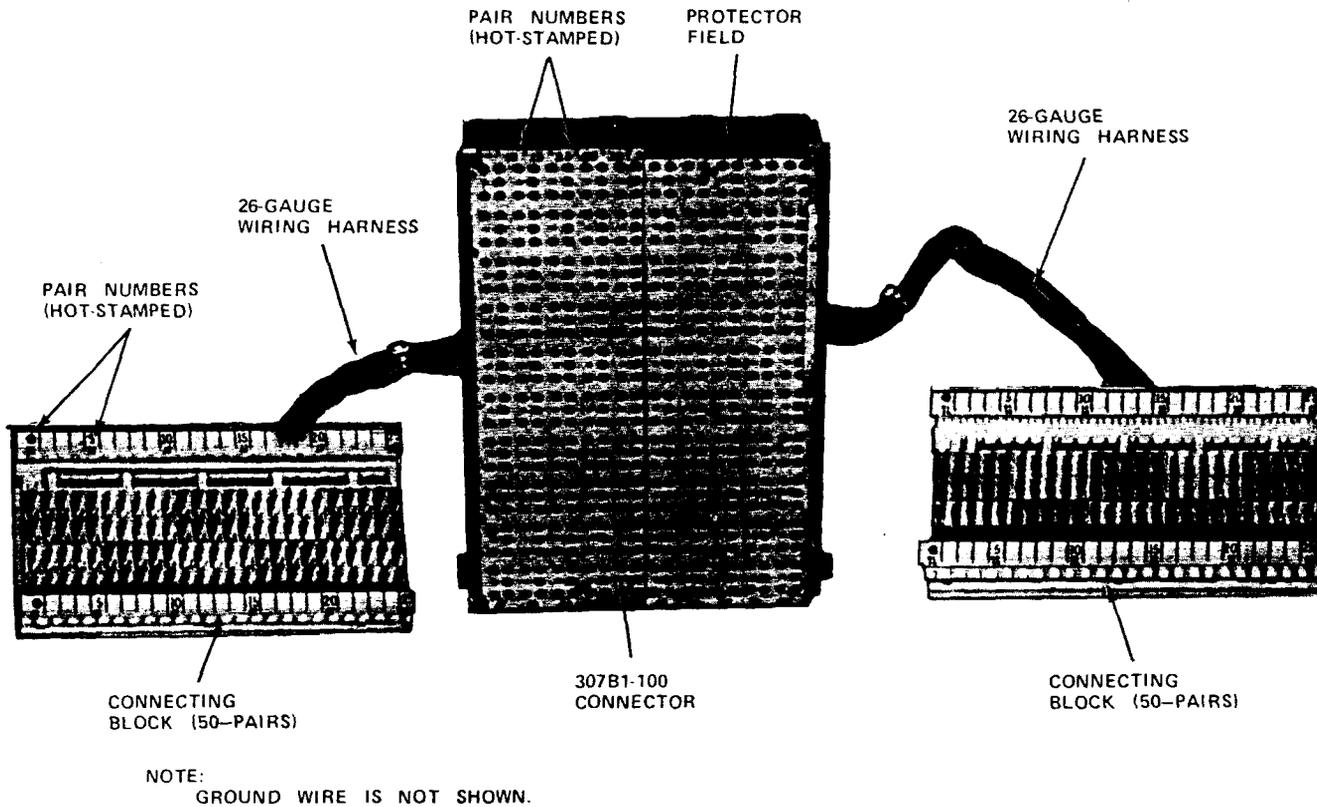

Figure 3. 307B1-100 Connector — Front View
2.03 The 307B1-100 connector (Figures 3 and 4) is rated Limited Availability (LA). The connector has a protector panel interconnected to one 50-pair 78C2B-50 connecting block and to one 50-pair 78C1B-50 connecting block. The 78C1B-50 connecting block is stenciled 01-50, and the 78C2B-50 connecting block is stenciled 51-100. The combination of these two 50-pair connecting blocks can represent any 100-pair complement in an outside plant cable. The 307B1-100 connector has additional backplane wiring that interconnects the protector panel to four 710 fire-retardant connectors. The connectors provide for rapid connection to 11CA or 11DA cable stubs equipped with mating 710 bridge modules. The 307B1-100 connector is mounted on shelves 1 and 11 of the *COSMIC II* main distributing frame.